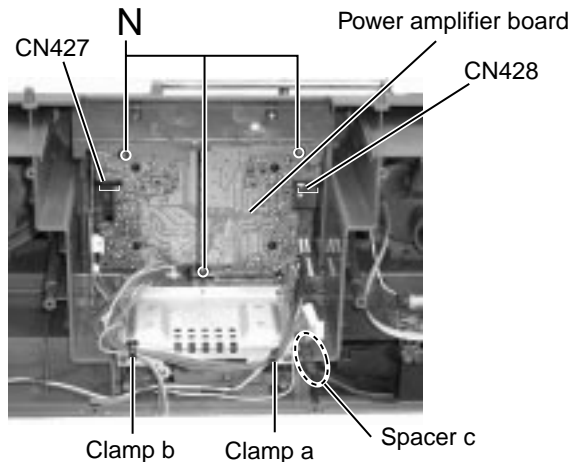

Fig.19
**■ Removing the power amplifier board (See Fig.19)**